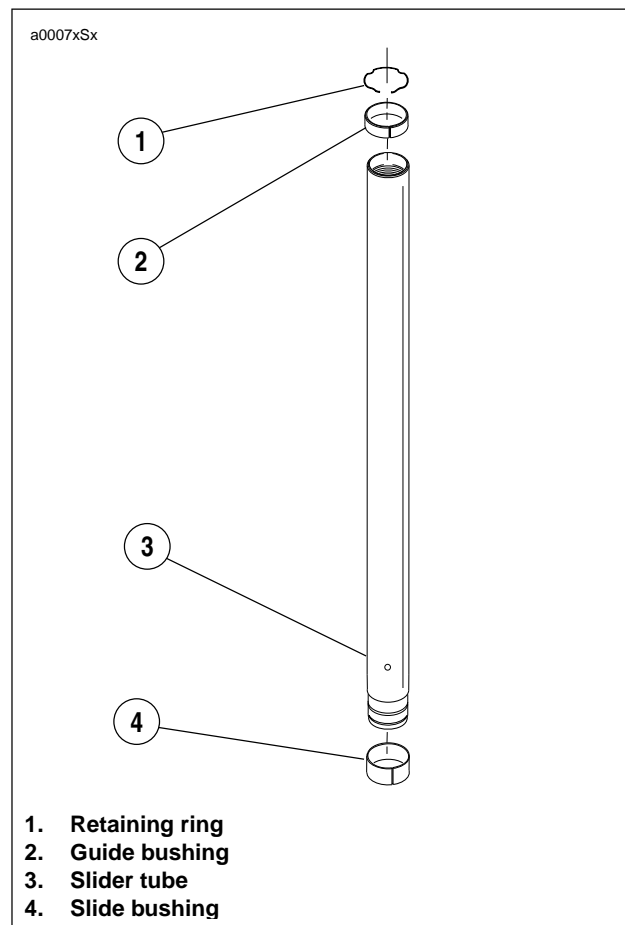

Figure 2-77. Slider Tube Components
2. See Figure 2-77. Check the slider tube for score marks, scratches and excessive or abnormal wear. Replace if worn or damaged.